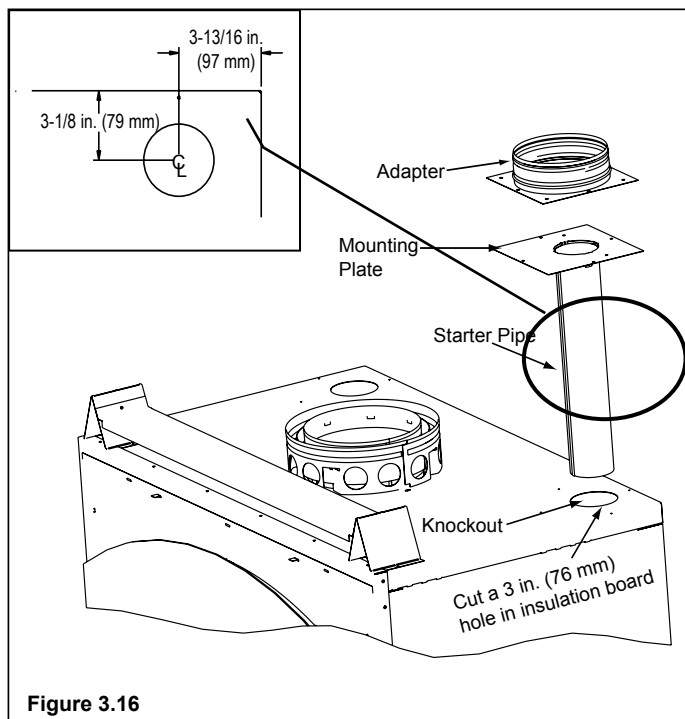

Figure 3.16
- Remove the knockout or cover plate from the top of the fireplace and discard it. See Figure 3.16.
- Cut a 3 in. (76 mm) hole in the insulation board as per the dimensions shown in Figure 3.16.